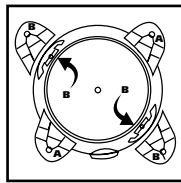

FIGURE 5
5. Take caster feet marked with the letter **B** and place on right front and left rear of tank also marked with the letter **B**. **FIGURE 5**.